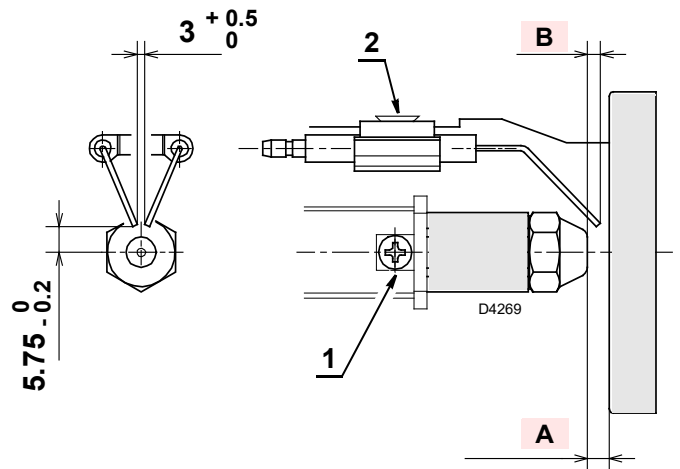

Fig. 20
- Hook the burner to the flange 1), by removing the blast tube 2) after loosening the fixing screws (3).
- Once replacement of the nozzle has been made, screw it and tighten it as shown in the Fig. 20.